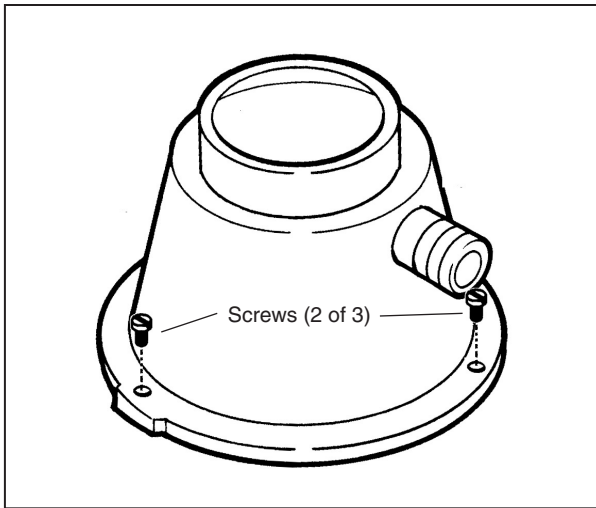

Figure 4.1
2. Remove three screws securing body container to upper end bell (see Figure 4.1). Separate body container from upper end bell. (If replacing faulty o-ring only, replace o-ring at this time.)